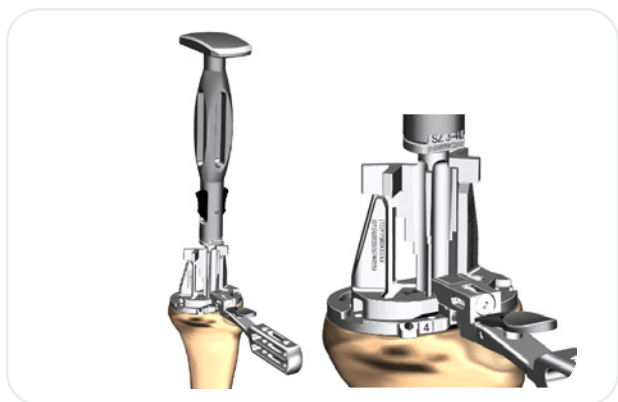

Figure 43
6. Align the fin punch to guide and slightly impact to ensure it is aligned properly within the guide (**Figure 43**). Continue to impact the fin punch through the guide until a positive stop is achieved.